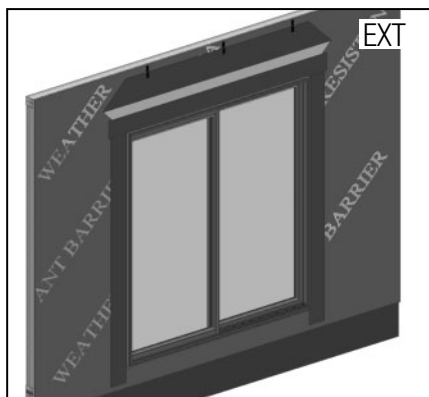

FIG. 19
- C) Cut and apply head flashing. The head flashing should be on top of the drip cap flashing. The head flashing should run slightly past the edge of the side flashing. (Fig. 19)